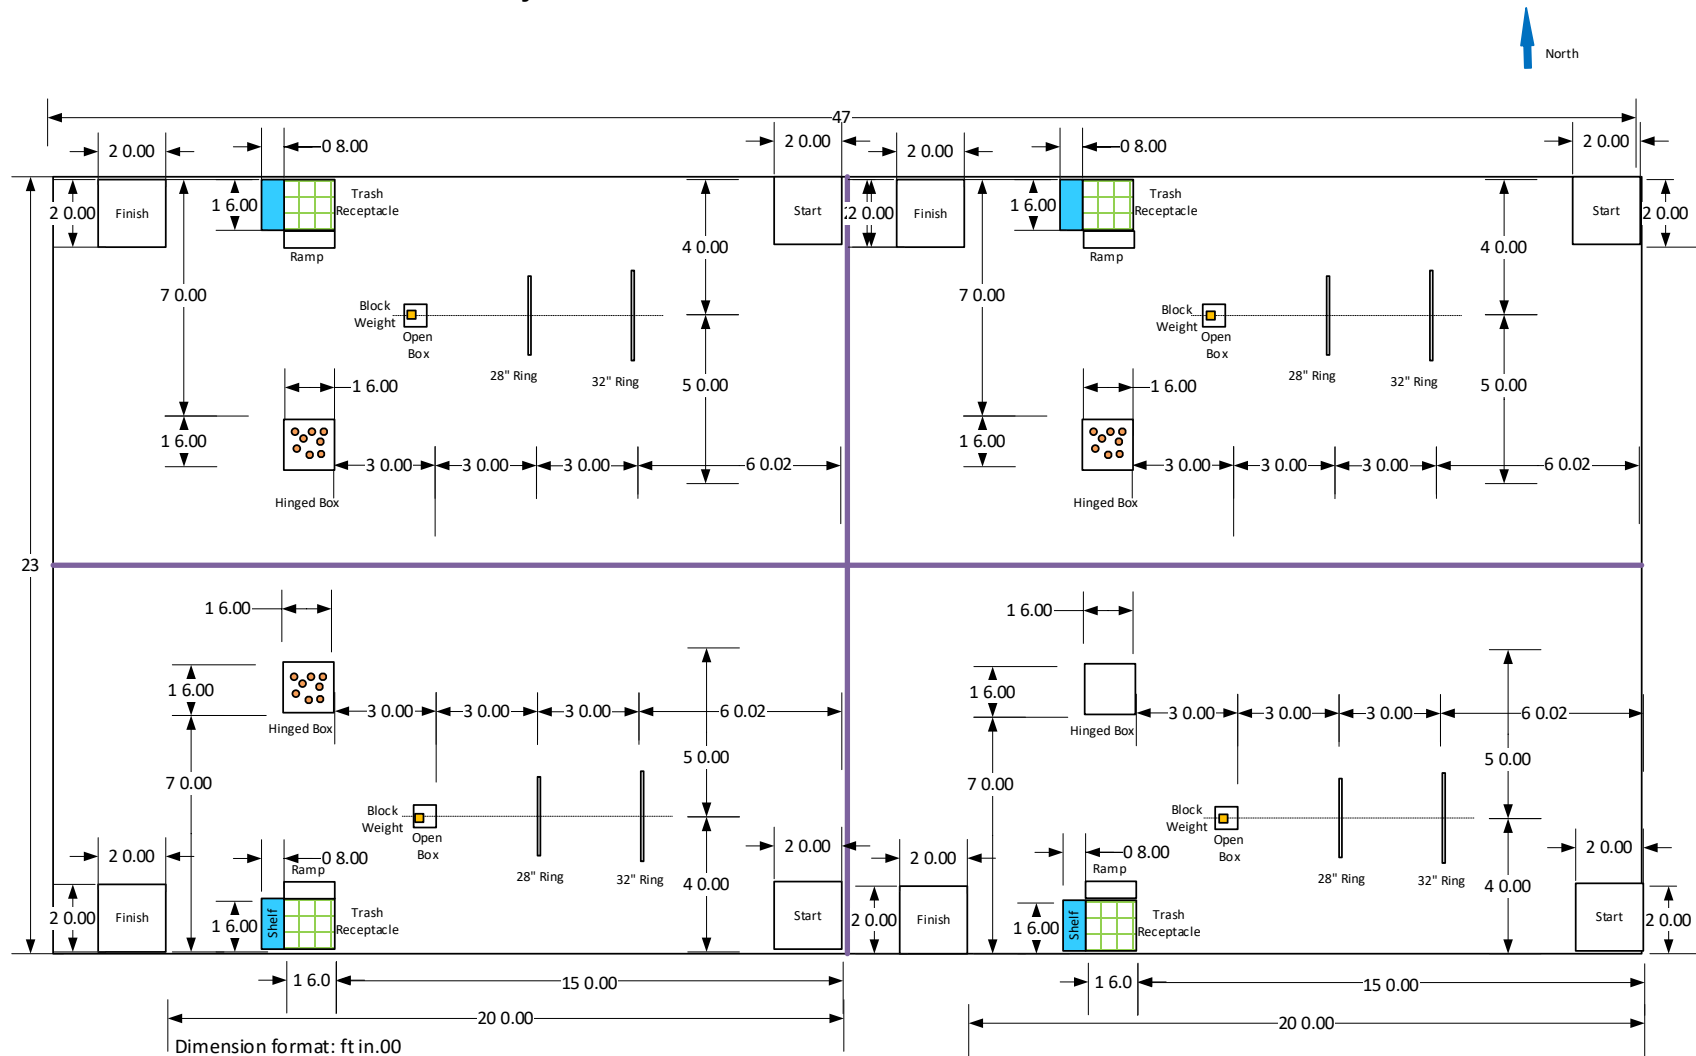

Figure 3 Hilton Houston North hotel pool Game Field layout
- Four (4) game fields will be available starting Friday, April 1, 2022.
- Four (4) competition fields, as shown in Figure 3, will be available for practice on Friday and for the competition on Saturday. They will be placed in each quadrant of the pool.